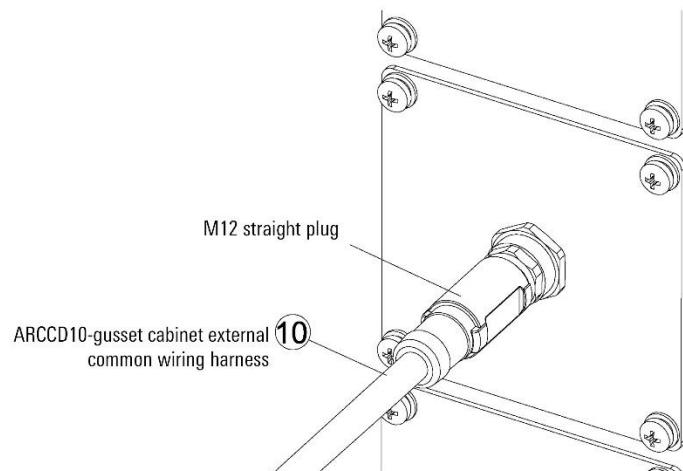

Figure 18-43 ARCCD10-gusset cabinet external common harness wiring
Step6. Connect one end of the ARCCD10-gusset cabinet external common wiring harness with an M12 straight plug to the M12 female connector of the cabinet according to the triangular positioning mark, and the other end to the integrated spring terminal block, refer to Figure 18-43.